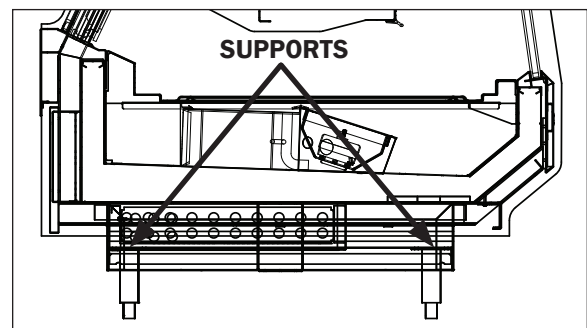

Fig. 2 Vertical supports
5. Locate vertical support positions along the chalk line (Fig 2). Spot properly leveled shim packs at each support location.